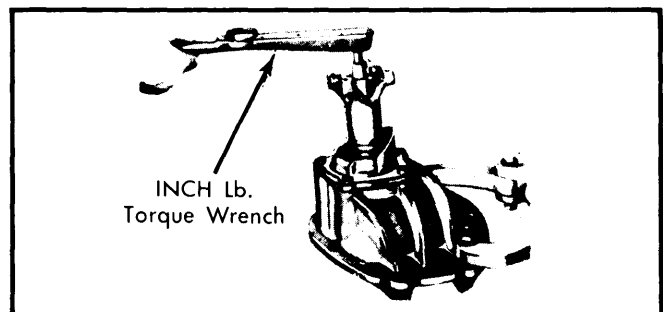

Fig. 6 Checking Pinion Bearing Preload
4) Use INCH lb. torque wrench and note torque required to rotate pinion through several revolutions. If less than desired, tighten nut a little at a time until proper preload is obtained. See Fig. 6.